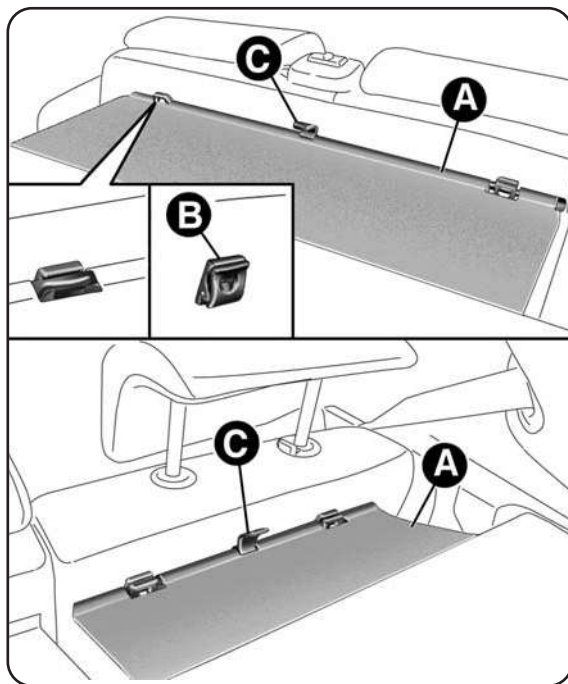

fig. 65
- release the curtains of the parcel shelf A - fig. 65 from the attachments B on the rear seat backrests;